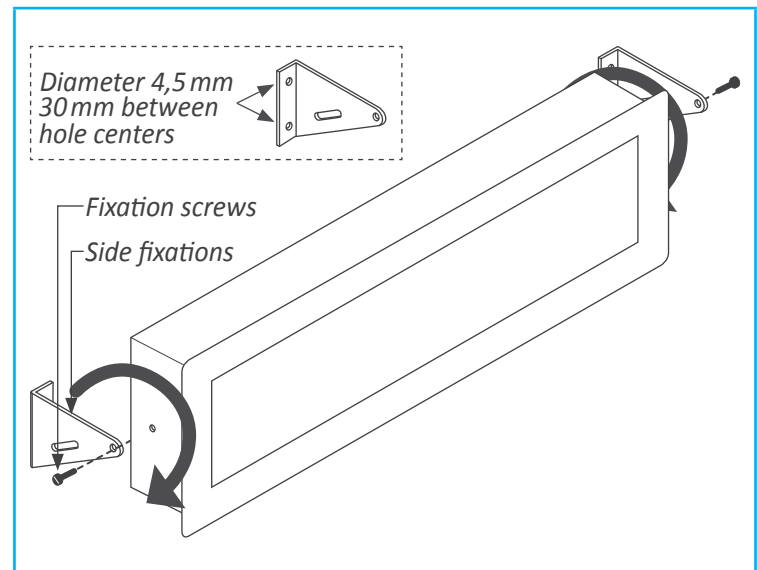

Figure 10 - Wall mount
- Wall mount. Mount the side fixations against the wall, as shown (see Figure 10). Each fixation has 2 holes with 4,5 mm diameter and a separation between hole centers of 30 mm. Once the side fixations are secured against the wall, place the instrument and press the fixation screws slightly. Tilt the instrument to the desired viewing angle and firmly screw the fixation screws.